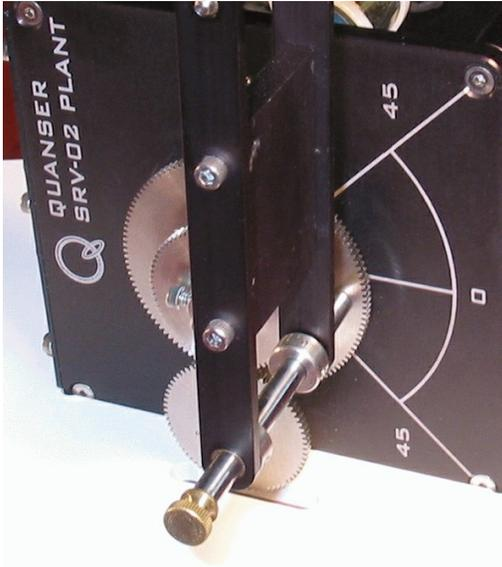

Figure 6: BB01 Calibration: move SRV02 load gear to 0 degree position.
3. As illustrated in Figure 6, below, manually rotate the servo load gear to the 0 degree position. That is, the coupling screw should be aligned with the 0 degree position, .